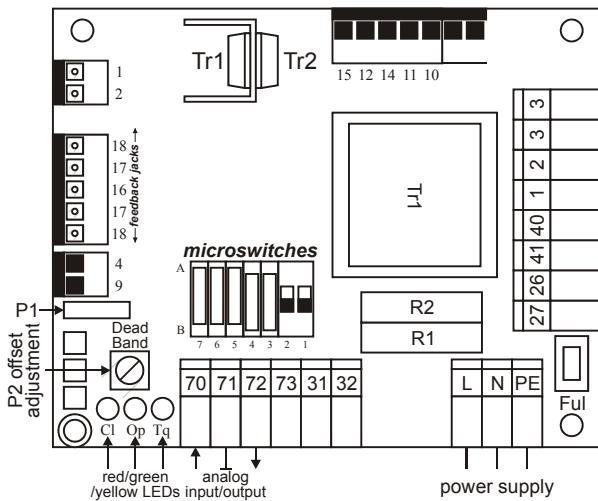
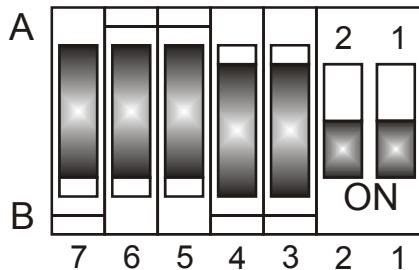

Fig. 7. Main PCB of the V5422E
Fig. 8. Default microswitch settings of the V5422E
The V5422E series is equipped with a main PCB (see Fig. 7) located (together with a feedback potentiometer and the angle indicator) under the cover (see Fig. 4). To access the main PCB, remove the cover.
- To adjust the V5422E for modulating control, microswitches 5 and 6 (located on the main PCB; see Fig. 7) must both be set to position "A" (see Fig. 8).
The offset of modulating actuators is adjusted at the factory and should not be changed. If you wish to change the offset (using offset potentiometer P2; see Fig. 7), note that an excessively small offset will result in oscillation of the actuator.
- Using a small screwdriver, adjust the potentiometer P1 (located on the main PCB; see Fig. 7) until the valve closes completely.